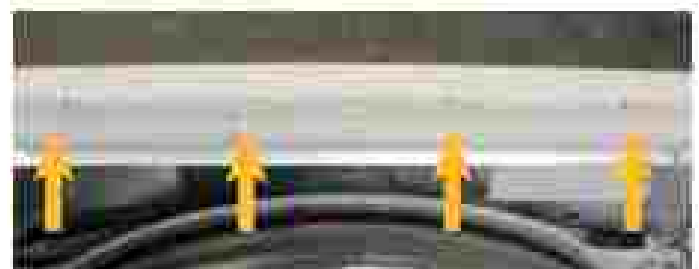

Figure 4 - Console clips
6. Gently lift up on the four (4) console tabs as shown in Figure 4. Separate console assembly from bracket while routing the HMI harness through the opening in the console bracket.